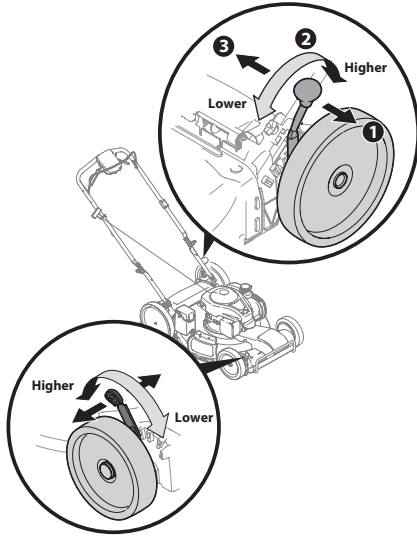

Figure 2-10
1. Pull the height adjustment lever towards the wheel (unit will tend to fall when lever is moved outward). See Figure 2-10.